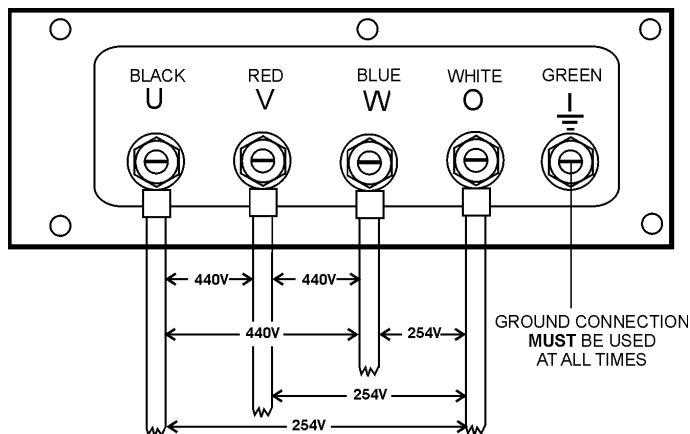

Figure 28. UVWO Terminal Lugs 400/230V Three Phase Connections
2. Connect the load wires to the **Output Terminal Lugs** as shown in Figure 28.